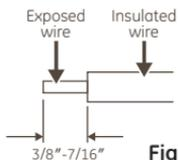

Figure 6
- d. Using wire strippers, strip the house AC power supply line wire (black), neutral wire (white) and ground wire (green) to expose $3/8''$ (9.5mm) - $7/16''$ (11.1mm) of wire (see **Figure 6**).